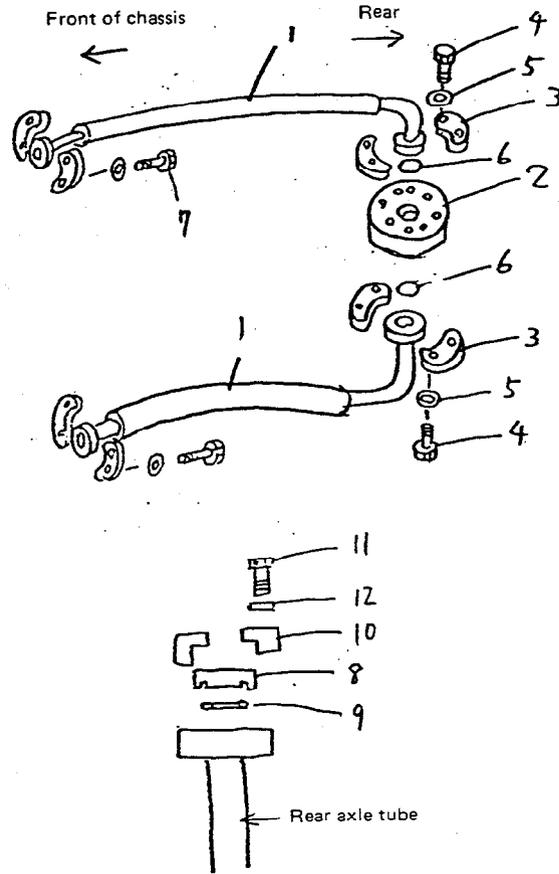
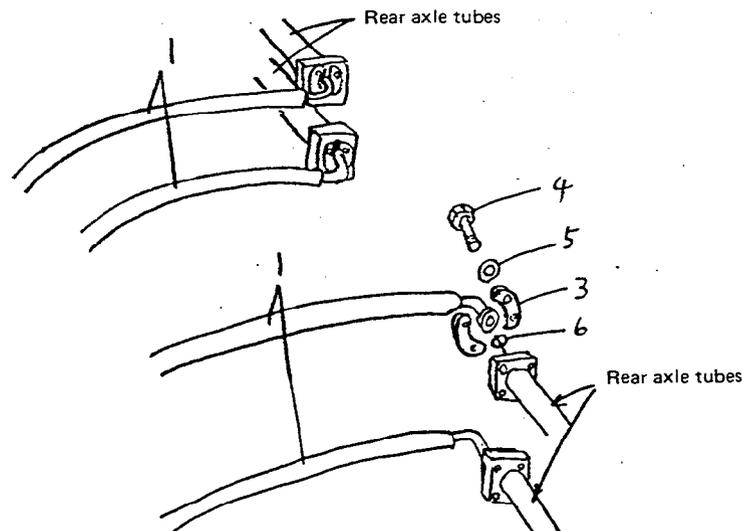

Fig. 1 Method of installing blind parts
Fig. 2 Method of connecting hoses after removing blind parts
- 1) Remove the blind parts (② , ⑨ - ⑪). (Fig. 1)
- 2) Loosen bolts ⑦ , change the direction of hose ① , connect hose ① and the rear axle tube, then tighten bolts ④ and ⑦ . (Fig. 1, Fig. 2)
- 1) Remove the blind parts (② - ④). (Fig. 1)
- 2) Connect portion P (2 places), portion Q and portion R. (Fig. 2)